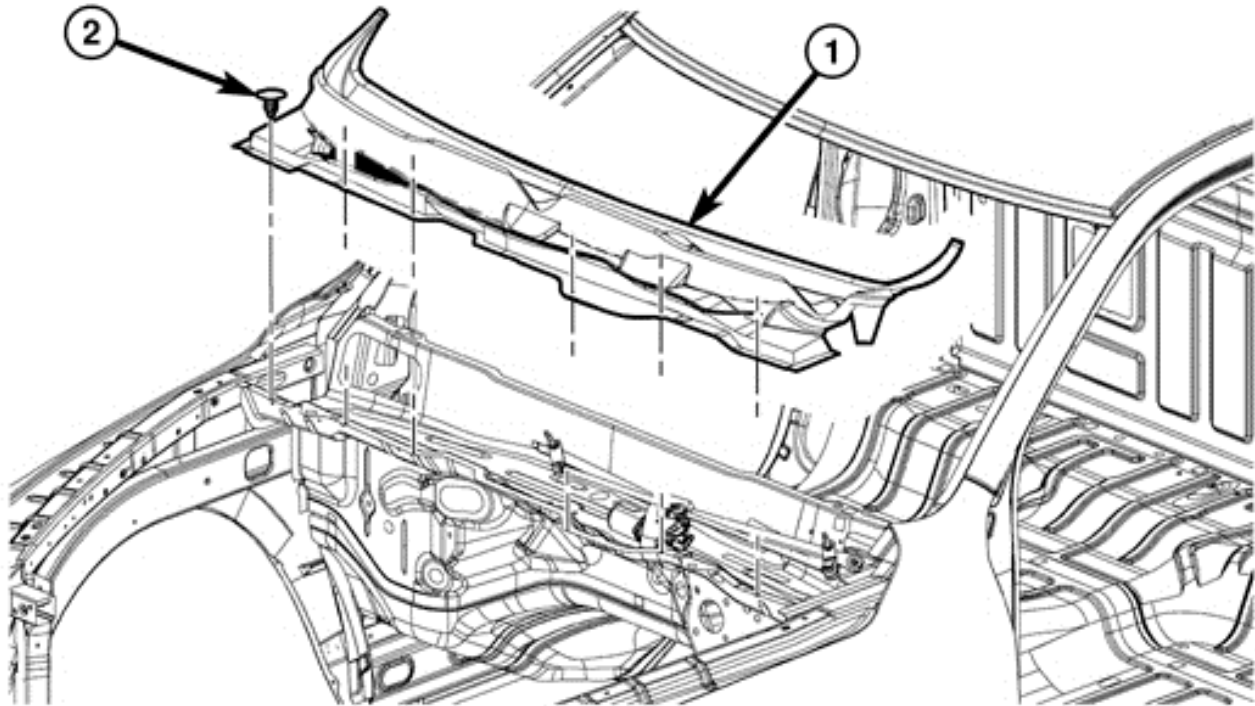

Fig 5.
- i. Remove the 6 plastic retainers as shown in **Fig 5** labeled (2).